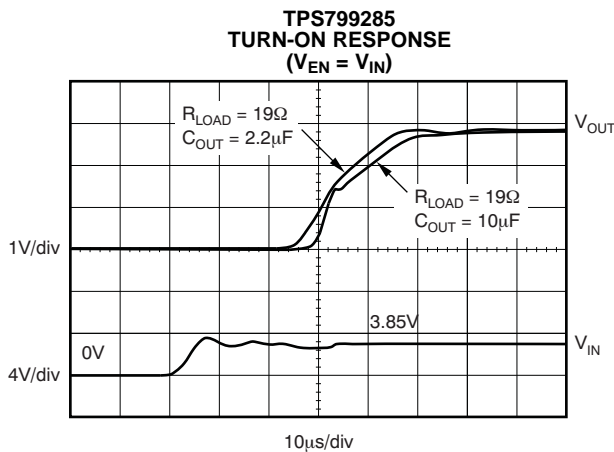

Figure 25.
Note that for fastest startup,  $V_{\text{IN}}$  should be applied first, then the enable pin (EN) driven high. If EN is tied to IN, startup will be somewhat slower. Refer to Figure 25 and Figure 26 in the *Typical Characteristics* section. The quick-start switch is closed for approximately  $135\mu\text{s}$ . To ensure that  $C_{NR}$  is fully charged during the quick-start time, a  $0.01\mu\text{F}$  or smaller capacitor should be used.